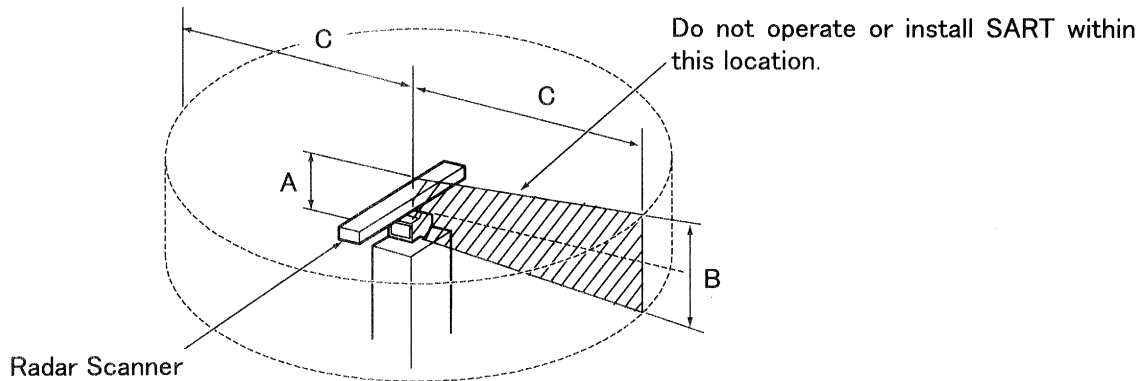

Fig. 3.1 SART Operation Prohibited Area
Do not operate or store the SART in a close proximity to the Radar Antenna (Scanner) as shown in Fig. 3.1. Otherwise, the SART may be exposed to strong radar waves or turn over resulting in SART malfunction.
Avoid installing the Socket Holder for SART in the Operation Prohibited Area shown in Fig. 3.1. Installing SART within this area and operating in conjunction with the ship's radar, may result in a malfunction of SART.
- That SART is not installed in the Operation Prohibited Area described in Fig. 3.1.
Do not install SART in the Operation Prohibited Area shown in Fig. 3.1. Installing in this location and operating in conjunction with the ship's radar, may result in a malfunction of SART.